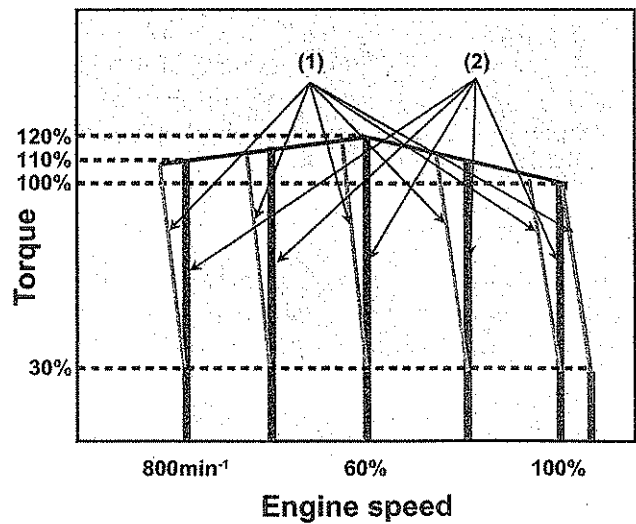

Figure 20
Figure 20 shows typical engine speed curves that outline the relationship between engine speed and load.
The VM series engines for general use are designed so that the engine speed is reduced by a certain percentage from 30 % load to full rated load. See curves (1) in Figure 20 below. The same percentage droop is maintained at any no-load speed.
The CL series consists of isochronous design engines, the speed of which is kept constant from no load to full rated load. See curves (2) in Figure 20 below.